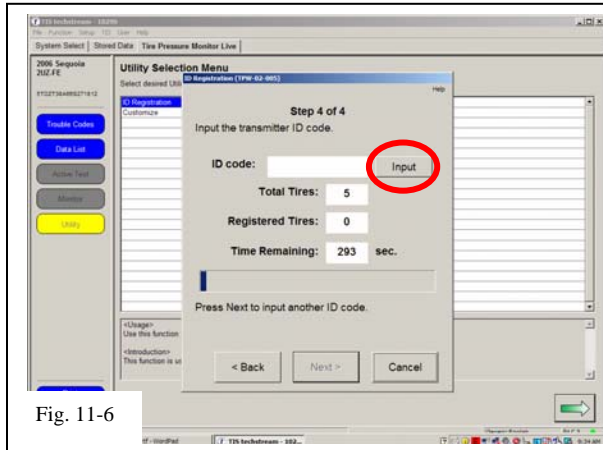

Fig. 11-6
- (i) Select “Next” for Steps 1 through 3. Select “Input” in Step 4 to begin TPMS ID registration. (Fig. 11-6)